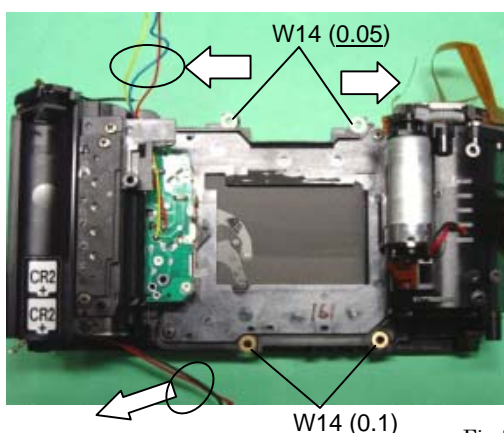

Fig.51
- 3) Distribute 2 solenoid wires upward, and lower lead wires to downward as shown in Fig.51.